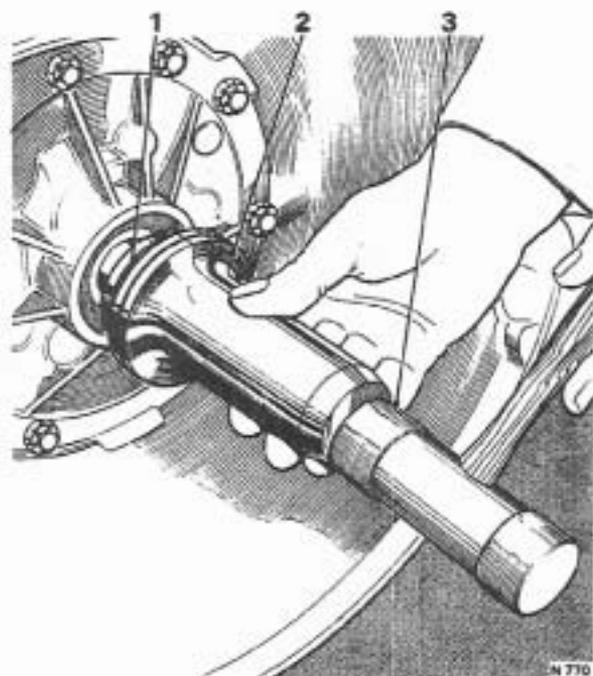

FIG. T145 FITTING THE OIL PUMP SEAL
5. Lightly smear the outer edge of the seal case with 'Wellseal' then fit the seal to the pump using tool RH 7953 (J-21359) as shown in Figure T145.